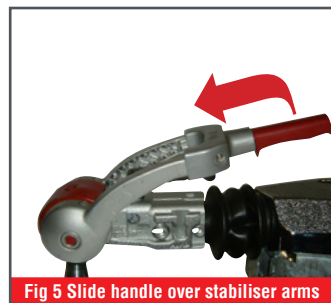

Fig 5 Slide handle over stabiliser arms
- 1 Reattach the 4x4 handle to the stabiliser lever arms (Fig 5).